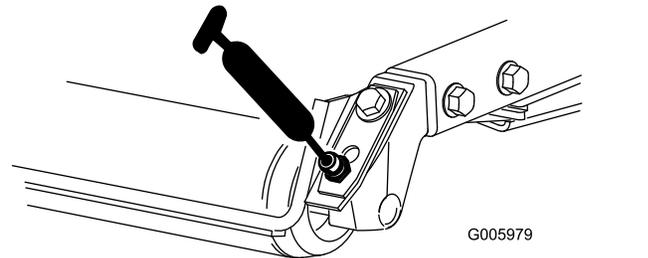

Figure 51
- Rear roller bearings (2 per cutting unit) (Figure 51)